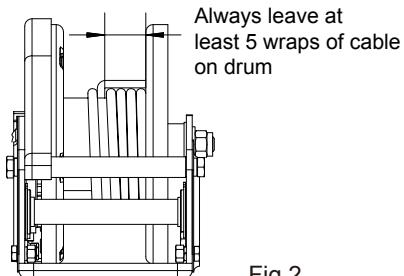

Fig.2
- ALWAYS LEAVE AT LEAST 5 WRAPS OF THE CABLE ON THE DRUM(Fig. 2)**